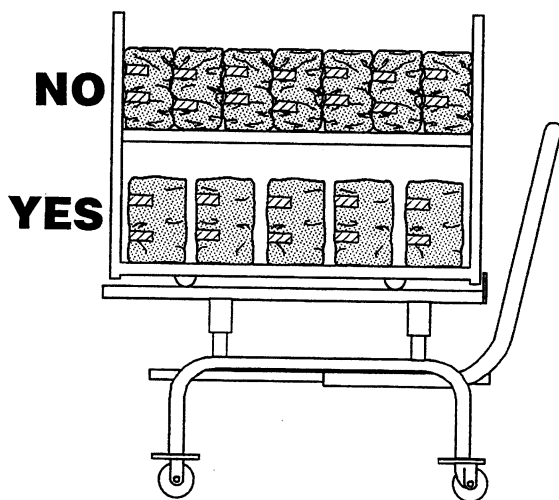

Figure 19.
- d. Position textile packs so that the layers within are perpendicular to the shelf (not sitting flat, one upon the other) for more efficient air removal, steam penetration, and evacuation for drying (Figure 19).